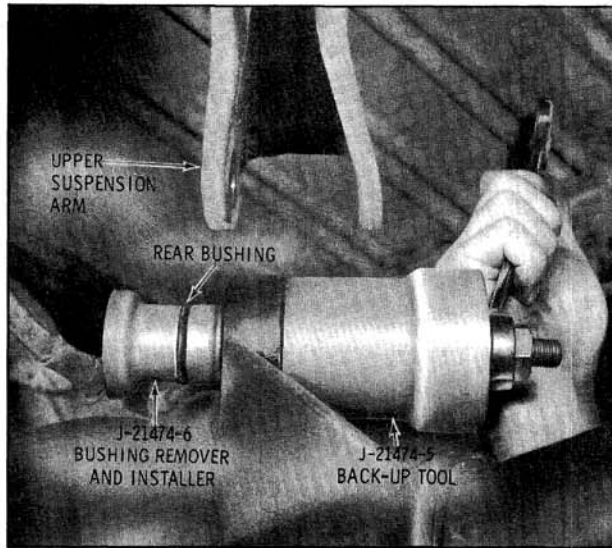

Fig. 9-144 Upper Arm Rear Bushing - Removal
### BUSHINGS (Figs. 9-144 & 9-145)
3. Position tools as shown in Fig. 9-144 and pull bushing out.